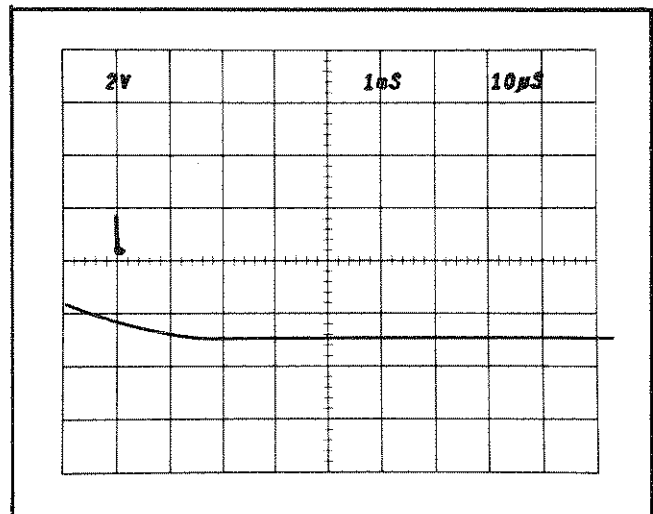

Fig. 5-13. Typical CRT display when checking delay adjustments.
i. CHECK—The second marker begins at the start of the delayed sweep. See Fig. 5-13.
l. CHECK—The tenth marker begins at the start of the delayed (B) sweep.
m. ADJUST—Delay Stop (R500) so the tenth marker begins at the start of the delayed (B) sweep.